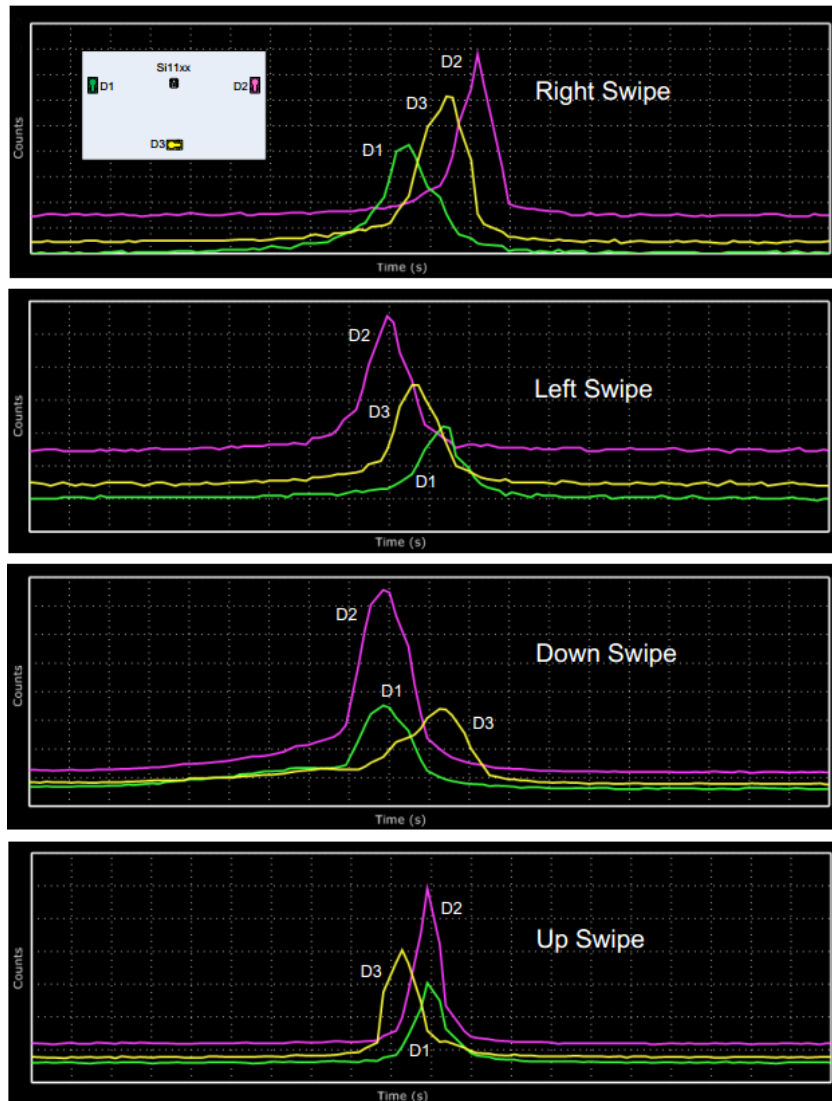

Figure 7-7 Gesture detection data in time domain
User has to switch from Type 1 to Type 2 by press KEY[0] on the DECA board. In Type 2 demo, Si1143 will read and update PS Register automatically then send out interrupt signal to NIOS when done reading and updating data. We can apply this updating characteristic of timing difference and data changes of Proximity Sensing (PS) to achieve gesture detection. As shown in Figure 7-7, indicates the gesture detection data in time domain of different gesture swipe. For more details, please refer to “AN498: Designer's Guide for the Si114x” or “Si114xRev1_3” or “AN580 Method 2: Phase-based Gesture Sensing.”